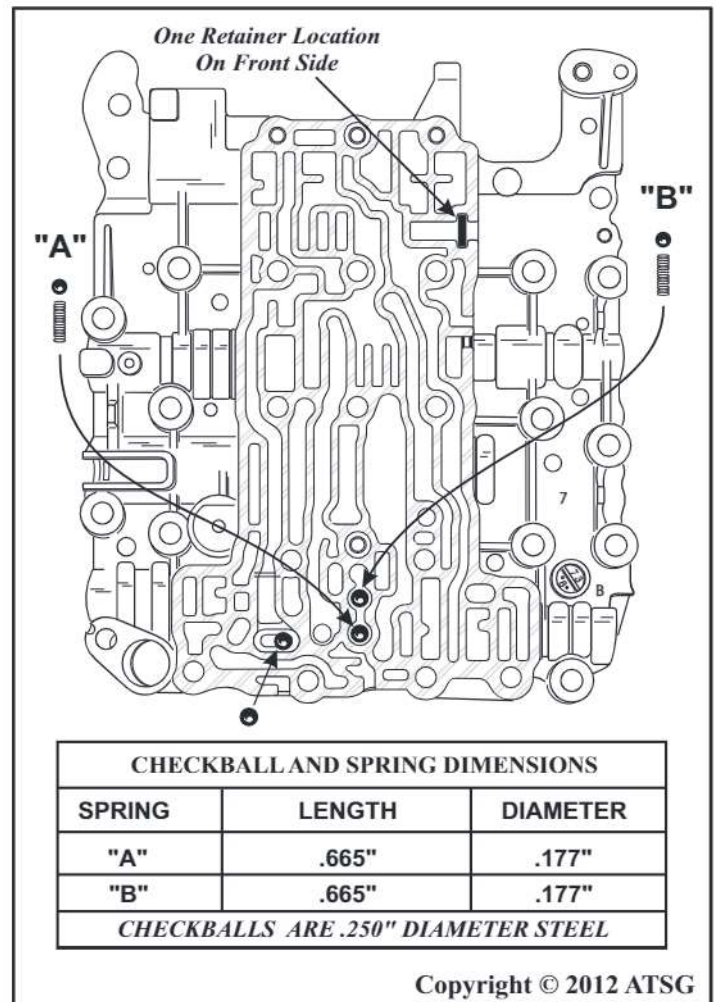

Figure 231
Note: One retainer location is shown in Figure 231, as it is on front side.
32. Turn the valve body over with the spacer plate facing down, as shown in Figure 231.
33. Install the "A" check ball and spring with the spring going in first, as shown in Figure 231.
34. Install the "B" check ball and spring with the spring going in first, as shown in Figure 231.
35. Install the last check ball into the bath tub, as shown in Figure 231.
Note: *Spring and check ball dimensions are shown in Figure 231.*